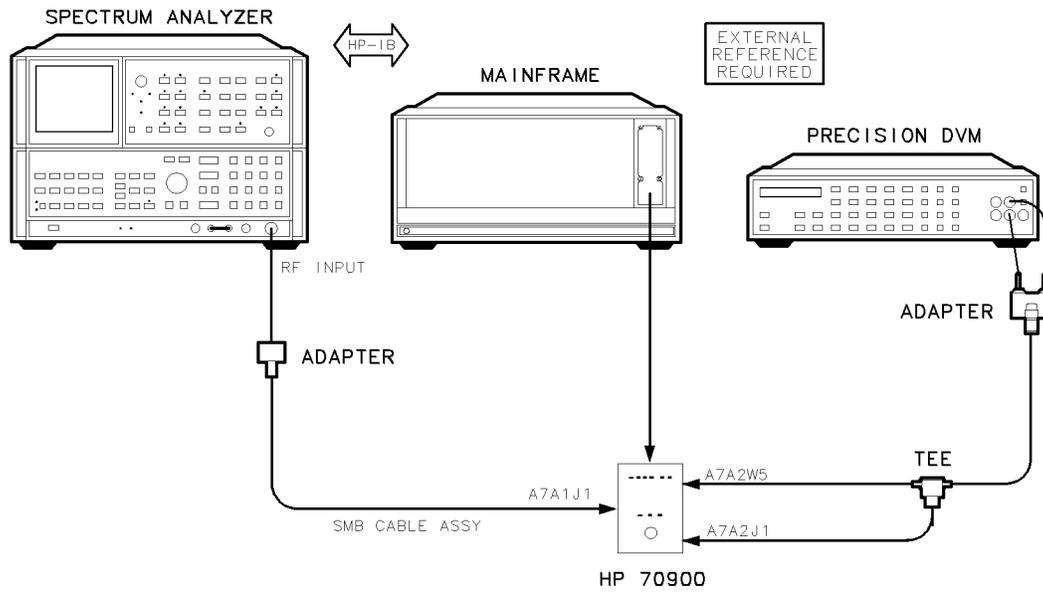
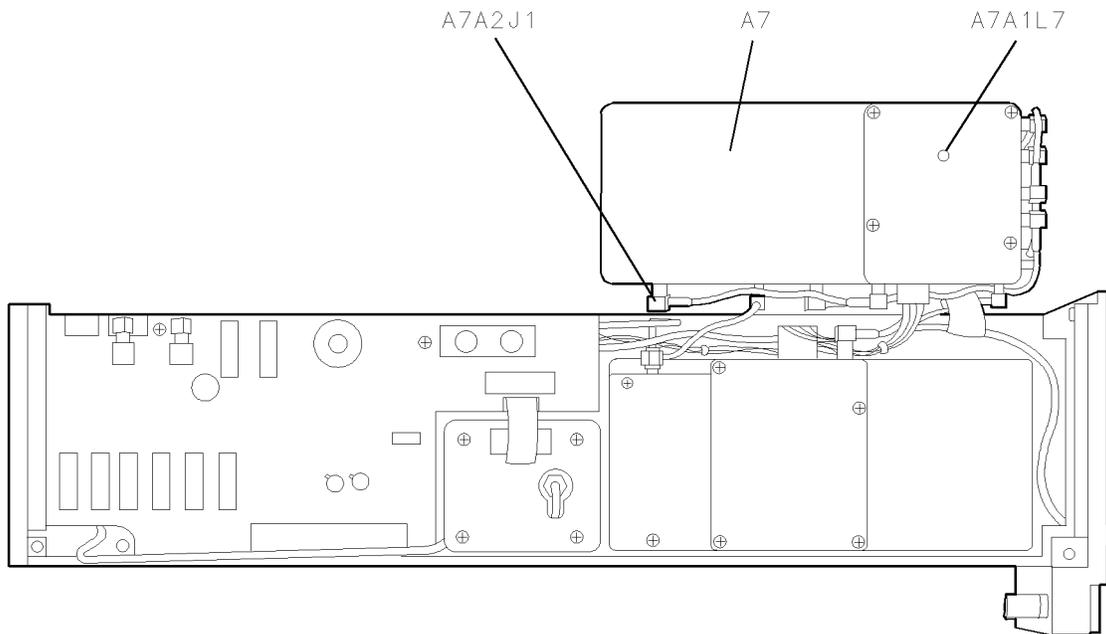

Figure 6-13. Equipment Setup for Adjustment 07. FFS VCO
Figure 6-14. Locations for Adjustment 07. FFS VCO
2. Place the HP 70900B local oscillator source on its side, then remove the three screws securing the A7A1 FFS phase lock loop/A7A2 FFS analog to the chassis frame. Without removing any cables from the FFS assembly, rotate the assembly forward and up to allow access to A7A1 FFS phase lock loop (L7). See Figure 6-14.
4. Connect the equipment as illustrated in Figure 6-13. Connect a BNC(m) to SMB(f) cable from the DVM to one side of the SMB tee. Remove the cable (A7W5) from A7A2 FFS analog (J1) shown in Figure 6-14 and connect it to the other side of the SMB tee. Connect an SMB(m) to BNC(m) cable to A7A2 FFS analog (J1). Use the appropriate adapters to connect the cable to the SMB tee.